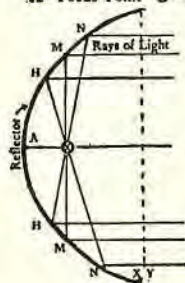
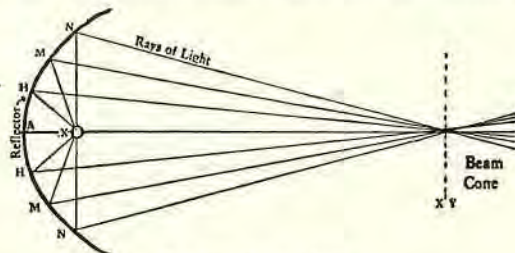

Fig. 22. Straight beam.
Fig. 24. Crossed beam.
One of the fundamental laws of light is, that the angle at which light leaves a surface is the same as the angle at which it strikes the surface. By referring to Figs. 22, 23, and 24, the angles which are made by the rays of light leaving the surface of the reflectors at (H), (M), and (N) will be seen to be the same as the angles made by the rays of light striking the reflector at the same point. The angles at which the rays strike the reflector are called "angles of incidence," and those leaving the reflector are called "angles of reflection."
The distribution of light leaving the opening of the reflector when lamp filament (O) is at the focal point (X) of the reflector is shown in Fig. 22. The rays which start from point (X) and strike the reflector at (H), (M), and (N) must be reflected parallel to each other to make the reflecting angles equal the striking angles. This gives a cylindrical or "straight beam." The beam is theoretically the same size (XY, Fig. 22) throughout its entire length. A "straight beam" gives a very narrow streak of light down the center of the road, like a spotlight; but no light is thrown to the side of the road.
The effect of bringing the filament (O) ahead of the focal point (X) is shown in Fig. 24. This forms what is termed a "crossed beam." Note that the light rays which leave the headlamp at a "rising angle" are those which come from the lower half of the reflector.
- (1) The diffusing type, as A, B, C, and D, page 437, which requires a focal adjustment for a "straight beam," or where the lamp filament is at the focal point, as shown in Fig. 22, page 436.
- (2) The deflecting type of lenses which require a focal adjustment for a "straight beam," the same as the diffusing type, are F, G, H, and I, page 437.
- (3) The deflecting type of lenses which require a focal adjustment for a "crossed beam," as in Fig. 24, page 436, where the filament is ahead of focal point, are J, K, L, and M, page 437.